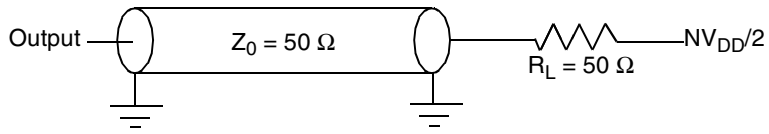
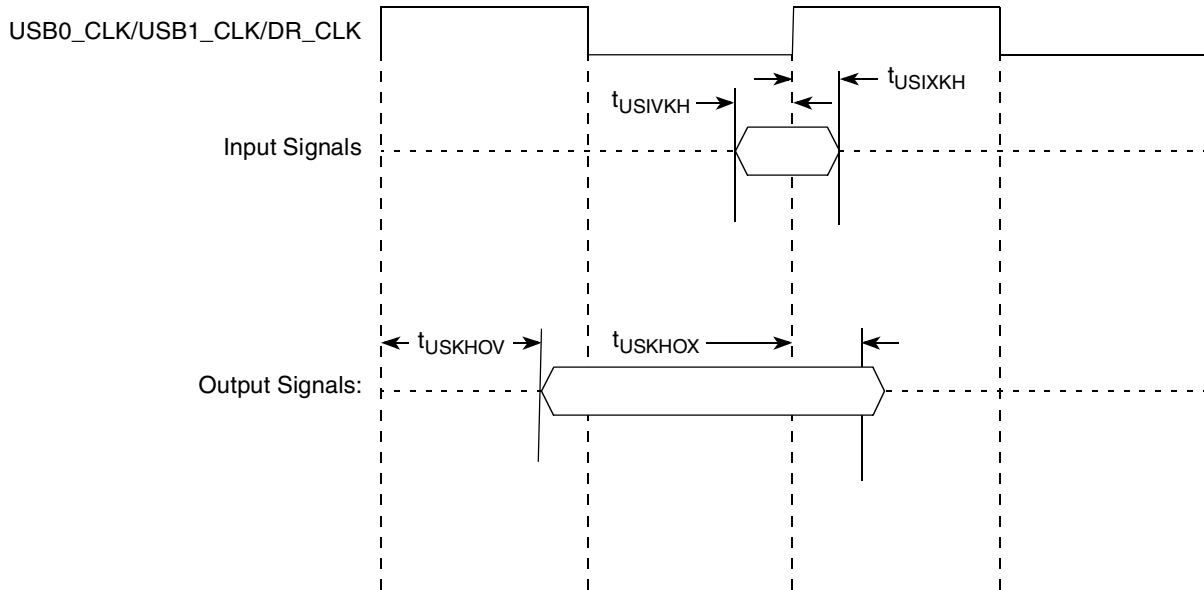

Figure 17. USB AC Test Load
Figure 18. USB Signals
Figure 17 and Figure 18 provide the AC test load and signals for the USB, respectively.
- All outputs are measured from the midpoint voltage of the falling/rising edge of t_{TCLK} to the midpoint of the signal in question. The output timings are measured at the pins. All output timings assume a purely resistive 50-Ω load (see Figure 17). Time-of-flight delays must be added for trace lengths, vias, and connectors in the system.
- The symbols used for timing specifications herein follow the pattern of $t_{(first\ two\ letters\ of\ functional\ block)(signal)(state)\ (reference)(state)}$ for inputs and $t_{(first\ two\ letters\ of\ functional\ block)(reference)(state)(signal)(state)}$ for outputs. For example, t_{JTDVKH} symbolizes JTAG device timing (JT) with respect to the time data input signals (D) reaching the valid state (V) relative to the t_{JTG} clock reference (K) going to the high (H) state or setup time. Also, t_{JTDXKH} symbolizes JTAG timing (JT) with respect to the time data input signals (D) went invalid (X) relative to the t_{JTG} clock reference (K) going to the high (H) state. Note that, in general, the clock reference symbol representation is based on three letters representing the clock of a particular functional. For rise and fall times, the latter convention is used with the appropriate letter: R (rise) or F (fall).